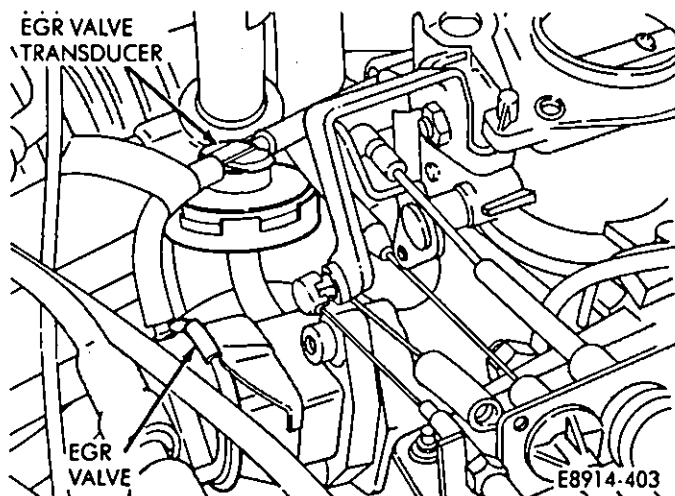
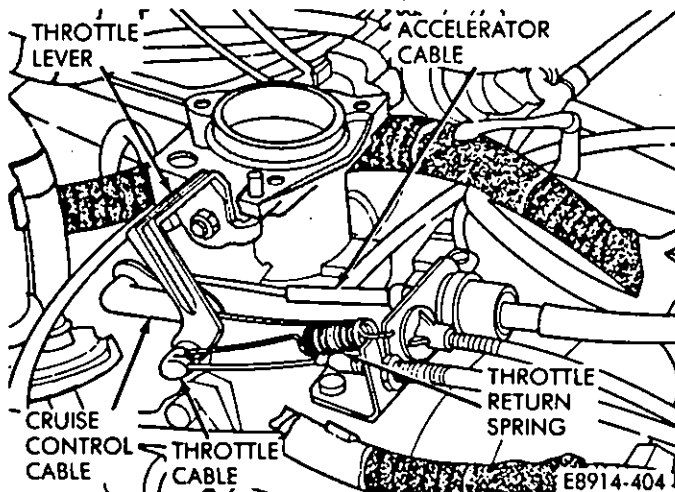

Fig. 30—EGR Valve and Transducer
Fig. 31—Throttle Linkage
(18) Inspect the EGR valve and transducer vacuum hoses for evidence of fatigue (Fig. 30).
(19) Verify that the engine speed sensor (crankshaft position sensor-CPS) wire harness is connected to the engine harness. Inspect the harness and connectors for corrosion.
(20) Inspect the throttle linkage, accelerator cable, throttle cable and cruise control cable for binding or sticking conditions (Fig. 31).
(21) Check the condition of the throttle return spring. Replace the spring if it is weak (Fig. 31).
(22) Ensure that the terminal connector ends in the boots of the spark plug wires are com-